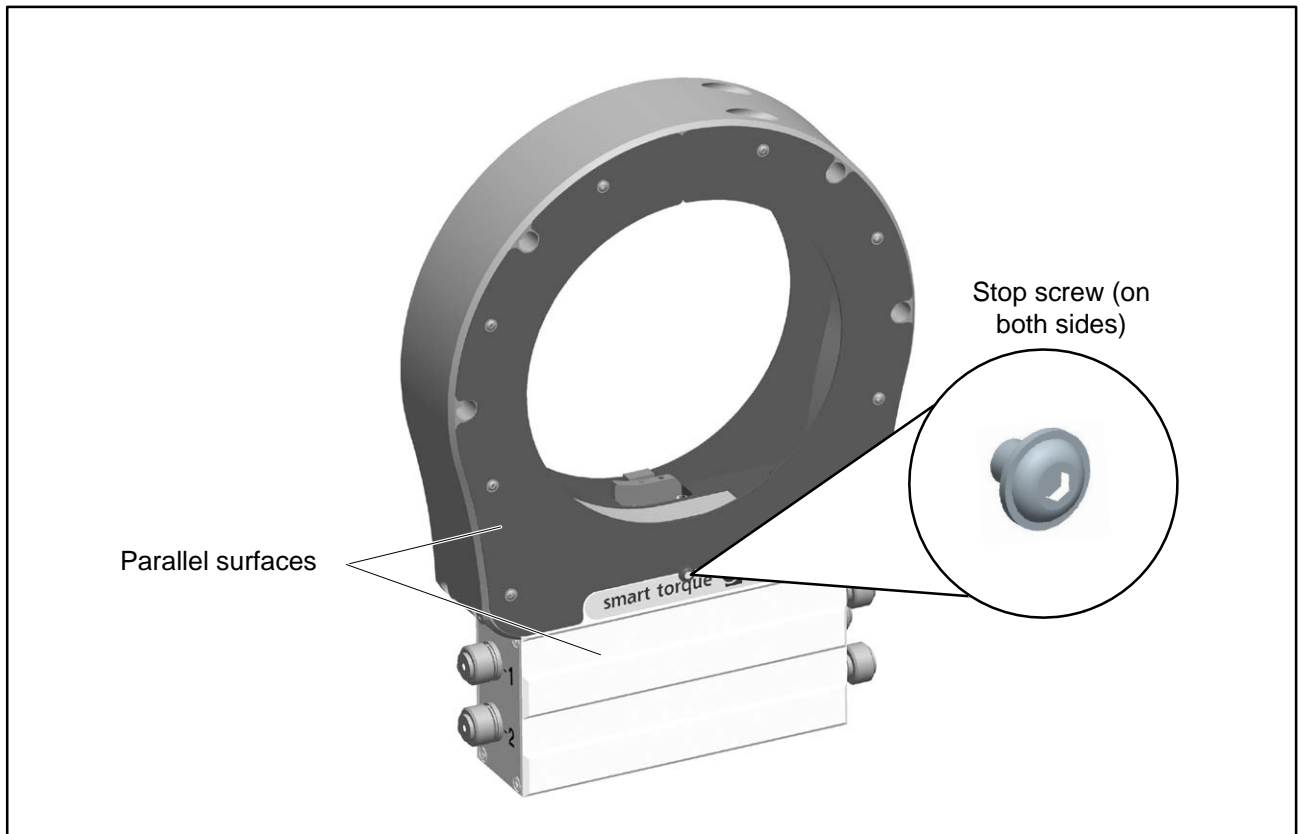

Fig. 6.10: Check for parallelism
With 5 kN·m and 10 kN·m torque transducers, we recommend supporting the stator at the protection against contact in addition. Fig. 6.10 shows an example of how to fix an angle bracket using a bolt (A) or a threaded rod (B). Please note that in this case the cover plates cannot be installed.